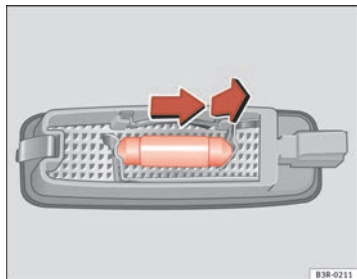

Fig. 229 Removing sunvisor light
- Remove the bulb, moving it in the direction of the arrow and outwards ⇒ fig. 229. ■